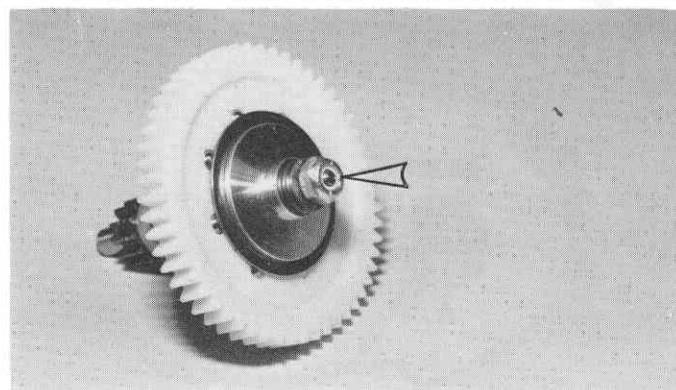

Fig. 78
□ **Fig. 78** Slip the spring on and screw the nut on. You'll have to hold the small gears from turning while screwing the nut on. Screw the nut on until the end of the nut is even with the end of the shaft, as shown.